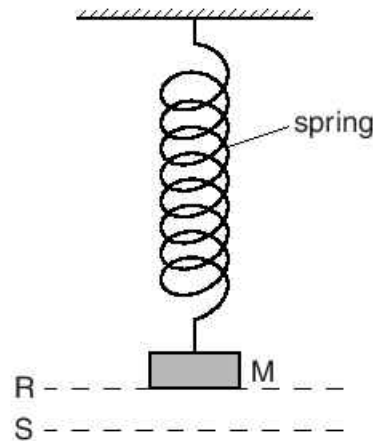

Fig. 6.1
- (b) A spring is attached to a support and hangs vertically, as shown in Fig. 6.1. An object M of mass 0.41 kg is attached to the lower end of the spring. The spring extends until M is at rest at R.
- (c) The object M in Fig. 6.1 is pulled down a further 0.060 m to S and is then released.
- (d) Describe and explain the energy changes from the time the object M in Fig. 6.1 is released to the time it first returns to R.